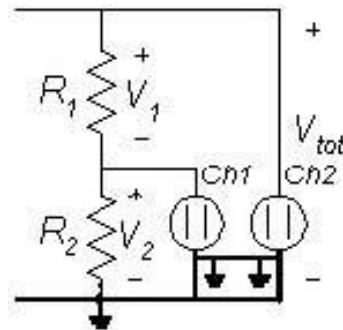
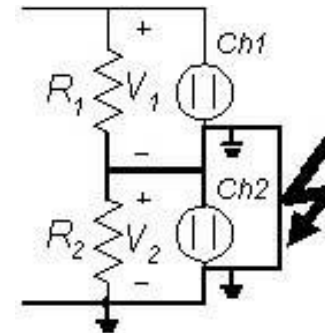
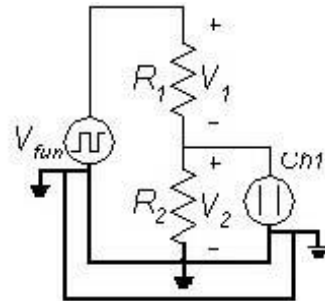
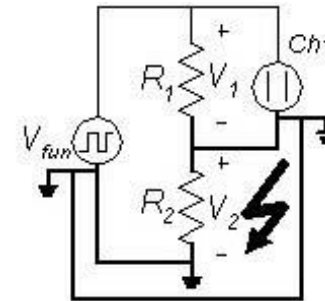

Figure 3: Correct connection, since the ground node in the oscilloscope is the same as in the circuit
Figure 4: Faulty connection, since the ground node in the oscilloscope short circuits the resistor R2 with the Ch 2 ground connection to V2
Figure 5: Correct connection, since the ground node of the oscilloscope and function generator (solid line) is the same as in the circuit (dashed-line)
Figure 6: Faulty connection, since the ground node of the oscilloscope and the function generator is connected to V2 by the Ch 1 ground connection
1. You can only measure voltage levels with reference to a common ground in the circuit, (as shown in Figure 3), i.e. you **can** only measure the voltages on the nodes as defined for the node voltage method referenced to ground, but you **cannot** directly measure the voltage between any two nodes, (as shown in Figure 4).
- If you connect a function generator or a second oscilloscope to your circuit, you have to use the same common ground for all instruments, (as shown in Figure 5). You cannot connect the oscilloscope to a different ground as the ground of the function generator, (as shown in Figure 6).
- The connection shown in Figure 6 is the most dangerous one, because you will be involving the power supply in the fault connection that causes a large fault current. The least danger that can be caused as a consequence of this fault current is that it will trip the circuit breaker or blow a fuse, but it can also cause a greater damage such as melting the ground connection and causing damage to the scope or even to you.
If it is necessary to measure the voltage across R1 in Figure 2 to Figure 6, you have to make a 'differential measurement' and use the math functions that are provided by the oscilloscope. In order to do so, connect the oscilloscope as shown in Figure 3 and subtract the two measured voltages, i.e. $V_I = V_{Ch2} - V_{Ch1}$.